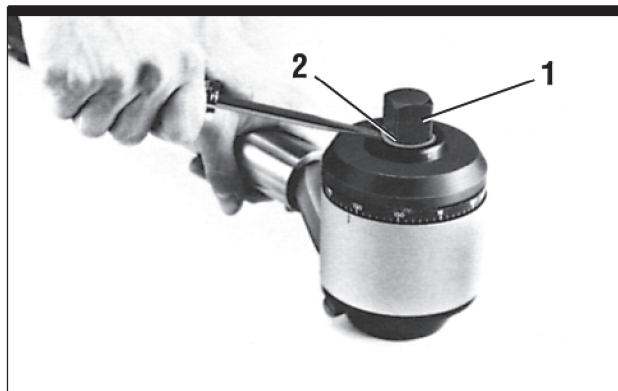

Fig. 4 Replacing Output Square Drive Fitting
1. Remove square drive assembly by inserting prying tool behind tab on Retaining Ring (Fig. 4, Item 2), pry up **carefully** and lift Assembly out of Carrier.